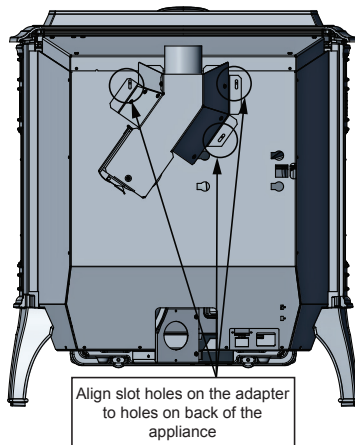

Figure 3
- Ensuring the adapter is in the vertical position. Drill 3 holes with #26 drill bit (**C3**) into the back of the stove using the outer shield on the adapter (**C1**) as a guide. Secure using three mounting screws (**C2**) (**Figure 3**).